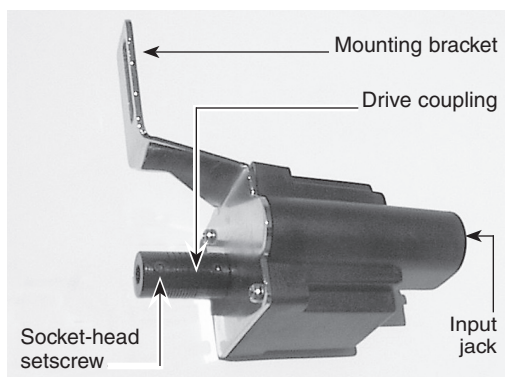

Figure 2. The EQ-1M motor. The socket-head setscrew on the end of the drive coupling connects the motor to the right end of the R.A. worm gear.
- Loosen the socket-head setscrew on the drive coupling of the motor drive assembly (see Figure 2) using the provided 2mm Allen wrench.
Insert four D-cell batteries into the battery pack. Orient the batteries as indicated on the white plastic battery holder. Connect the end of the battery pack's power cord to the DC power input on the hand controller. Connect the hand controller plug into the input jack (Figure 2) on the motor.